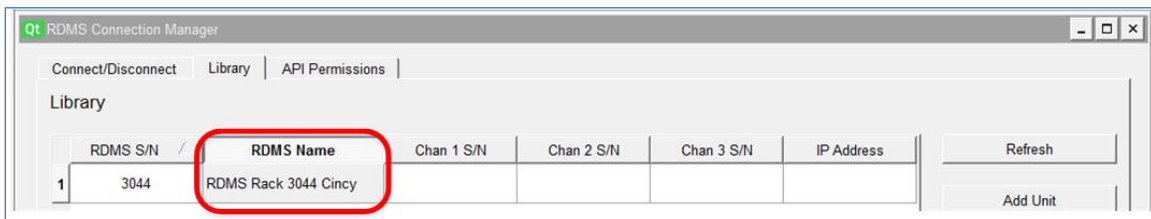

Figure 14: Library Tab, RDMS Name Typed in Library List
3. Type a name for the RDMS that makes it easily identifiable, as shown in Figure 14. This field can be any alphanumeric text.